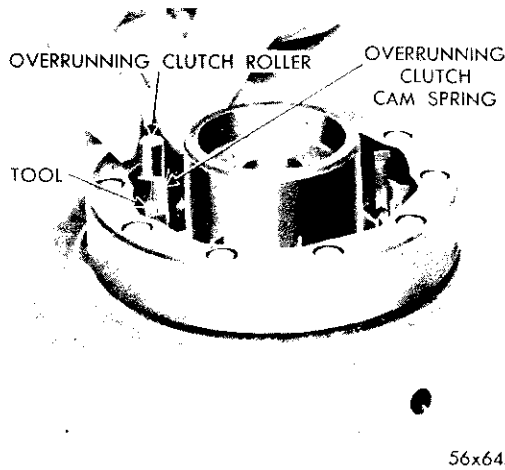

Fig. 72—Installation of Overrunning Clutch Rollers and Springs in Intermediate Support and Cam Assembly
(3) With the drum supported, select snap ring to give minimum clearance. Snap rings are available in three thicknesses: .060-.062, .064-.066 and .068-.070 inch.
(4) Place Tool C-3527 in position in the intermediate support and cam assembly and install cam spring and rollers, as shown in Figure 72. **Make definitely sure that cam springs and rollers are properly seated against cam; otherwise, damage to springs will result when overrunning clutch hub is installed.**
(5) With the intermediate support and cam assembly resting on bench, lubricate bushing and install the low and reverse band drum assembly over hub.
(6) While holding the two assemblies together, remove Tool C-3527. Lubricate the bearing surface on the reverse sun gear and install intermediate support and planet pinion carrier assembly.
(7) Lubricate the two sun gear rear clutch seal rings (neoprene) and install them on the reverse sun gear.
(8) Install the rear clutch piston retainer assembly on the reverse sun gear. To prevent personal injury, do not place fingers under the clutch retainer assembly when installing.
(9) Install the front clutch and sun gear thrust washer (A). Lubriplate may be used to hold the thrust washer in position.